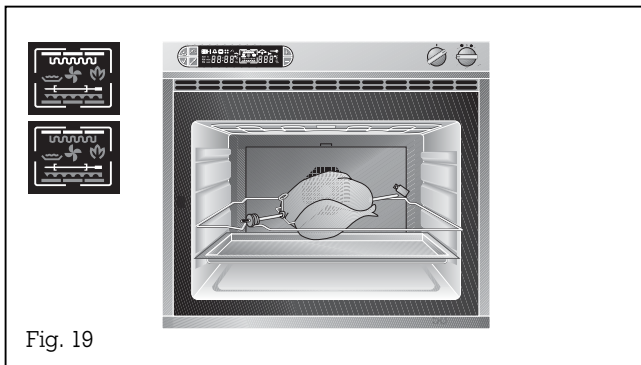

Fig. 19
**Grilling with the rotary spit** produces a crispy crust and even browning all-round. (Fig. 19) Insert the support frame for the rotary spit in the second level from below. Insert the grilling tray one level further down to collect fat.